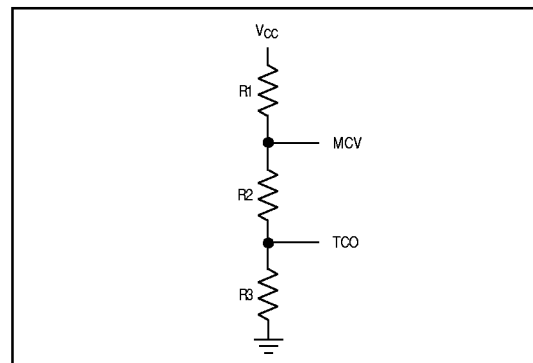
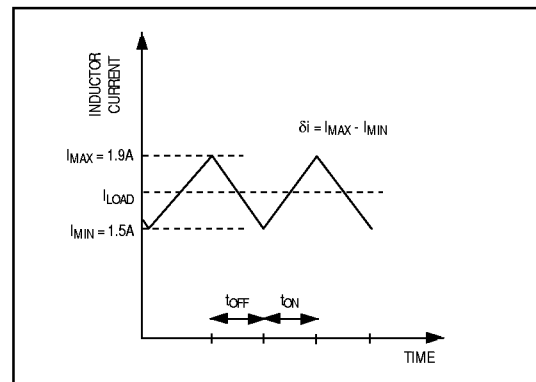

Figure 9. Resistor Configuration for MCV and TCO
Figure 10. Inductor-Current Waveform in Continuous-Conduction Mode
**7) Select Maximum Cell Voltage (MCV) and Temperature Cutoff (TCO).** The MCV and TCO can be selected with a resistor-divider combination (Figure 9). In our example, TCO has been set to +10°C, which corresponds to a voltage of 1.72V at the TS pin. The MCV for most fast-charge batteries can be set to about 1.9V. To minimize the current load on  $V_{CC}$ , choose  $R1$  in the range of 20k $\Omega$  to 200k $\Omega$ . In this example, choose  $R1 = 60.4k\Omega$ , then calculate  $R3$  and  $R2$  as follows:
In order to provide high currents with minimum ripple, the device must function in the continuous-conduction mode. Figure 10 shows a current waveform of an inductor in the continuous-conduction mode (where the coil current never falls to zero).
The average load current ( $I_{LOAD}$ ) through the inductor must be 1.7A, so a peak current ( $I_{MAX}$ ) of 1.9A should give a fairly low ripple while keeping the inductor size minimal. This means that the total current change (Figure 10) across the inductor is  $\Delta = 2(1.9 - 1.7) = 0.4A$ .
The MAX2003/MAX2003A can use several other circuits to charge batteries. Figure 9 shows a circuit that uses a Darlington transistor to regulate the current a six-cell NiCd battery pack receives. Figure 10 shows a gated current-limited supply being used to charge a Duracell NiMH battery pack. Table 6 lists the external components used in these two application configurations.